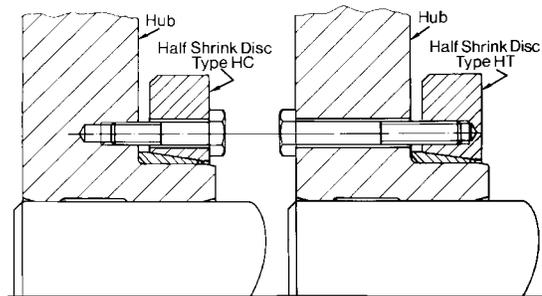

Fig. 57: Half Shrink Discs®
4. Insert the locking screws through the collar clearance holes and screw them into the corresponding tapped holes (see Fig. 57: Half Shrink Discs®).
4. Insert the locking screws through the web clearance holes and screw them into the corresponding collar holes (see Fig. 57: Half Shrink Discs®).